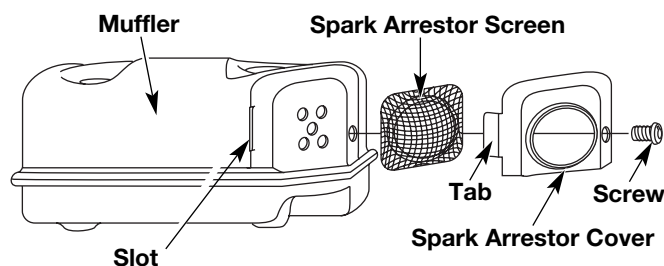

Fig. 41
2. With a flat blade screwdriver or Torx T-20 bit, remove the screw attaching the spark arrestor cover to the muffler (Fig. 41).